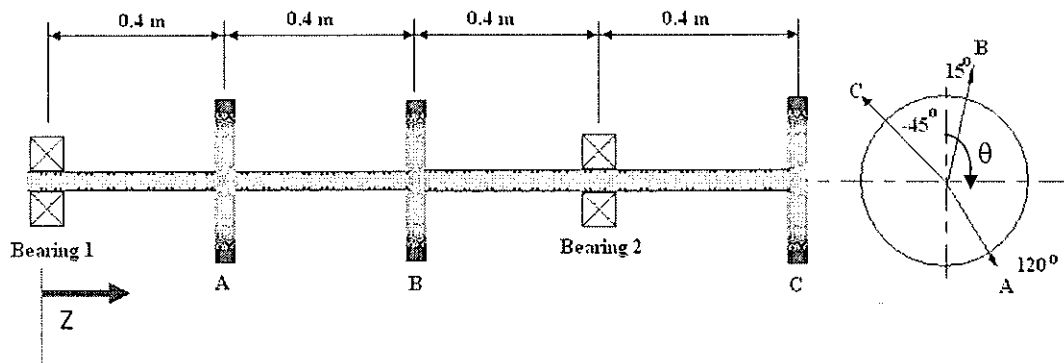

Figure Q5(b)
b) The **Figure Q5(b)** shows a rotor lying on the z axis whose total length is 1.6 m. The rotor is supported on stiff bearings at $z = 0$ and $z = 1.2$ m. Three discs A, B and C are fixed to the rotor and the mass centre of each is slightly eccentric. The angular positions of weights measured (clockwise) from vertical axis are 120° , 15° and -45° as in the right side of the diagram. **Table Q5(b)** shows the position of the discs and details of the imbalance carried initially on each of the discs.